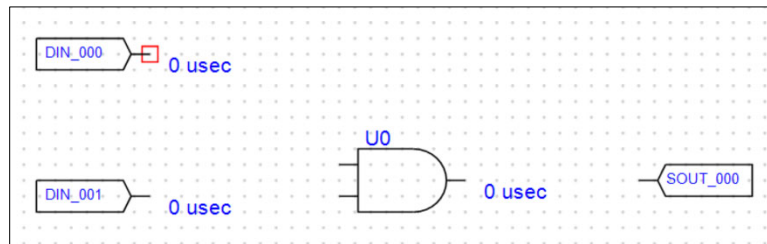

Figure 81 - Start of 1st Segment
- 1) Start a new wire by left clicking on the IO Port pin (Figure 81 - Start of 1st Segment).